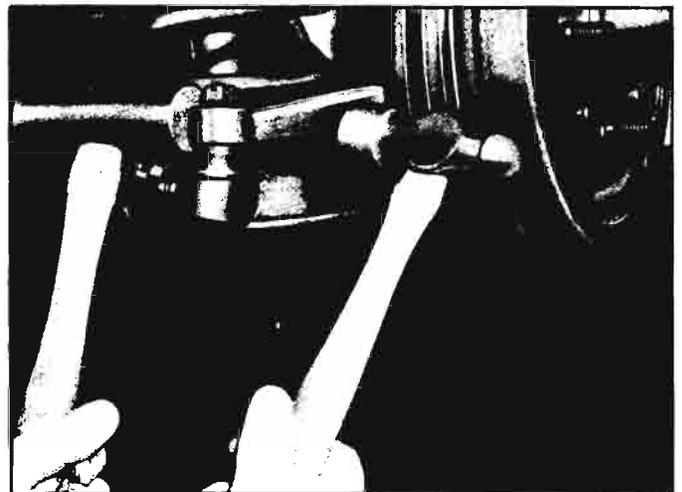

Fig. 4-27—Freeing Ball Stud
2. Free ball stud from relay rod by backing up boss with a large hammer or dolly and striking opposite side with hammer of slightly lighter weight (fig. 4-27).